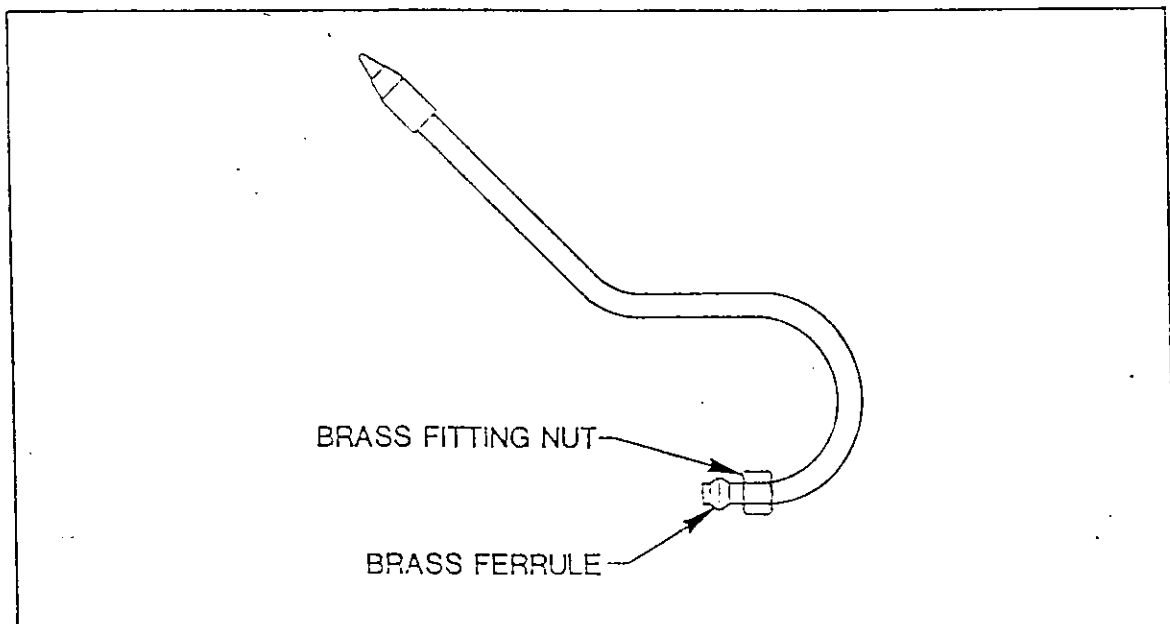

Figure 1-18
STEP 18: Install brass ferrules and nuts on air nozzles as shown in Figure 1-18.